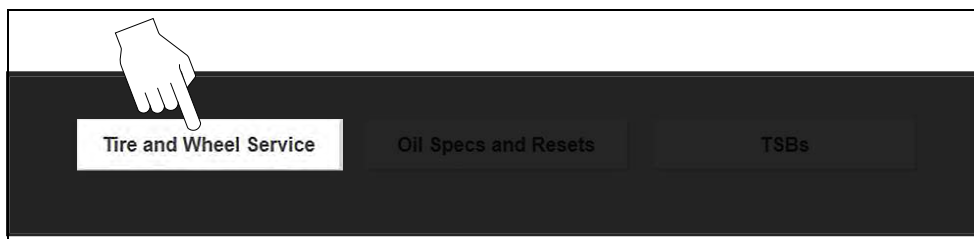

Figure 10-12
- **From the Home screen** - select the **Quick Lookups** icon (Figure 10-12), then select **Tire and Wheel Service**, then proceed to Step 1 below.